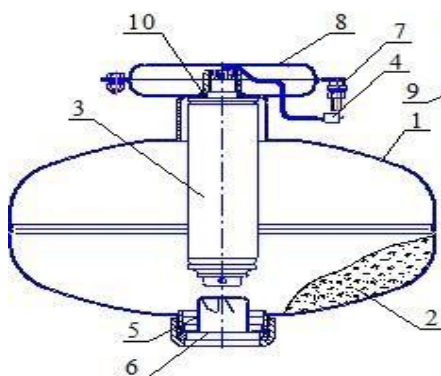
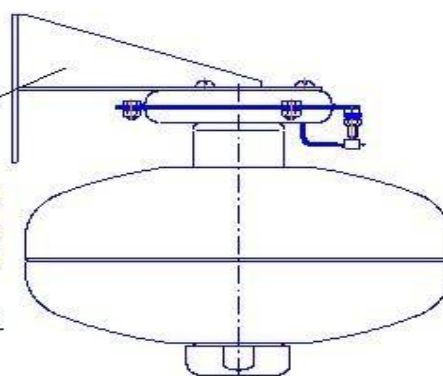

Figure 1
Figure 2
4.1 MPH (Figure 1. and Figure 2.) consists of the pressure body 1, which includes: extinguishing powder (HP) 2 and cold gas generator (GSP) 3 with electric fuse 4. On the other side of the hood is the atomizer insert 5, as well as the outlet, which closes with a membrane 6. The module is equipped with a grounding terminal 7. The upper part of the MPH is equipped with a holder for the ceiling 8., or for the wall 9.
4.3 After receipt of an electrical impulse to the electrical output switch 4GSP 3 (Figure 1,2), the gas generator is activated and generates a cold gas that puts the interior of the container under pressure. As soon as the necessary pressure is present, the membrane opens 6 and the extinguishing powder comes out of the module through the atomizer 5.
6.2 Suspension 8 can be mounted under the ceiling (Figure 1) or suspension 9 (Figure 2) can be attached to the wall. Please mark the places for attaching the suspension as on the (picture 3) and on the wall acc. (Figure 4).